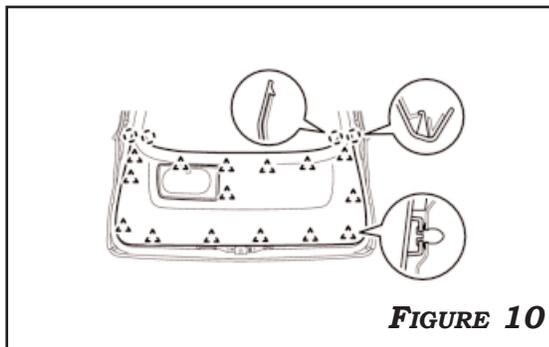

FIGURE 10
10. DISENGAGE 19 CLIPS TO REMOVE BACK DOOR TRIM PANEL. **FIGURE 10**